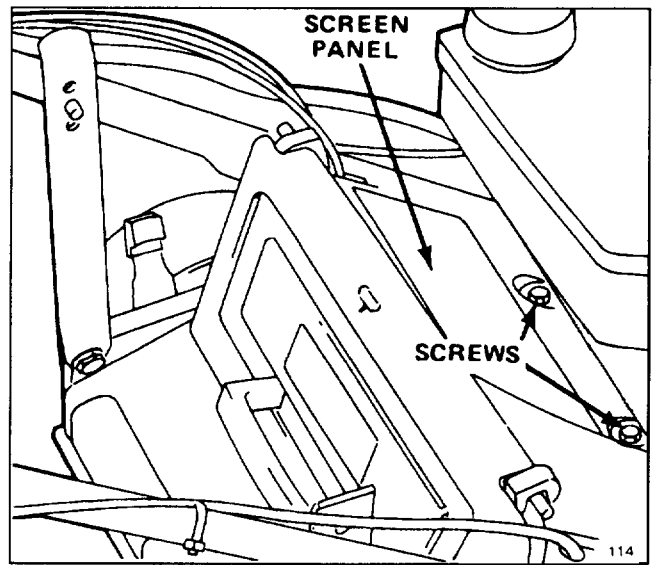

Figure 32
6. Remove screen panel on mower housing and clean around blade brake mechanism (Fig. 32 & 33).